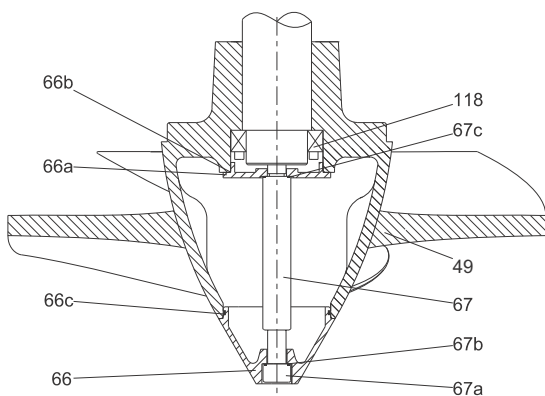

Fig. 66 Propeller, KPL 700-1800
5. Lubricate and fit the O-ring (pos. 66b) on the propeller cap (pos. 66)
6. Lubricate and fit the O-ring (pos. 67b) on the screw (pos. 67a)
7. Mount the propeller cap (pos. 66), fit the screw (pos. 67a) and tighten it according to section 7. *Tightening torques and lubricants*. See fig. 66.